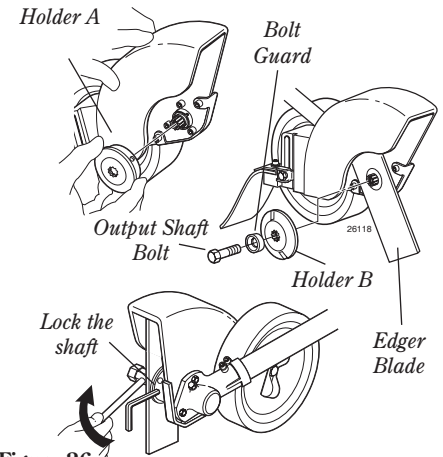

Figure 26
3. Mount the edger blade and holder B onto the shaft, and then install the bolt guard and shaft bolt (turn bolt counter-clockwise to install). See Figure 26.
4. Align the hole in holder A with the matching hole in the gearcase, and then use the hex wrench to temporarily lock the output shaft. See Figure 26.
5. Use the combination wrench to firmly tighten the shaft bolt. Remove the hex wrench. See Figure 26.